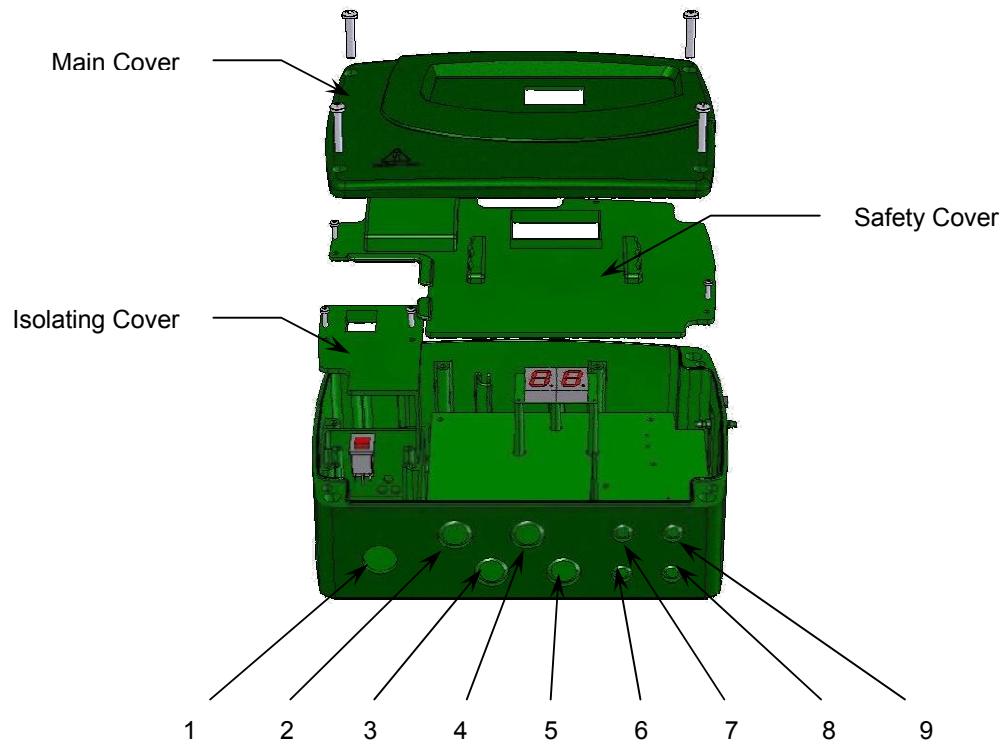

Figure 1 : Control Panel Gland Holes
- 3.7.4 Using a suitable M20 gland, feed the mains power supply through Gland Hole 1 (Figure 1). Wire the mains supply to the terminal blocks following the guide on the terminal blocks.
- 3.7.6 Using a suitable M20 gland, feed the blower power supply cable through Gland Hole 4 (Figure 1) and terminate to connections 5 & 6 (TB3) following the guide on Table 1.
- 3.8.1 Using a suitable M20 gland, feed the pump power cable through Gland Hole 2 (Figure 1) and terminate to connections 1 & 2 (TB1) following the guide on Table 1.
- 3.10.3 Remove the link in the terminal blocks between connections 11 & 12 (TB6) before inserting cables. Using a suitable M12 gland, feed the high level alarm float cable through Gland Hole 7 (Figure 1) and terminate to connections 11 & 12 (TB6) following the guide on Table 1.
- 3.11.5 Using a suitable M12 gland, feed the cable from the beacon through Gland Hole 9 (Figure 1) and terminate to connections 16, 17 & 18 (TB8) following the guide on Table 1.